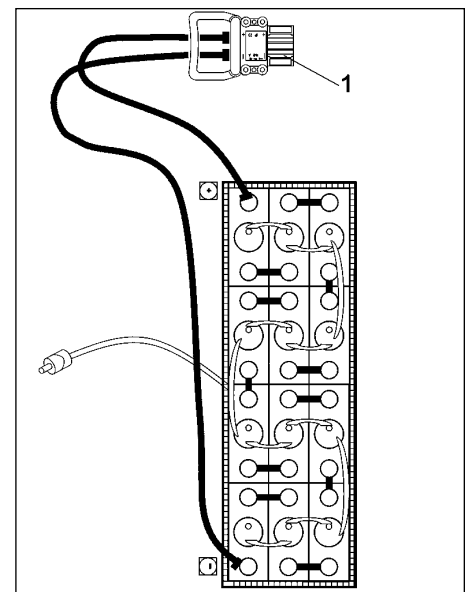

Fig.5b
- After charging of the batteries, connect charger plug (Fig.5b/2) and device plug for electrical connection.